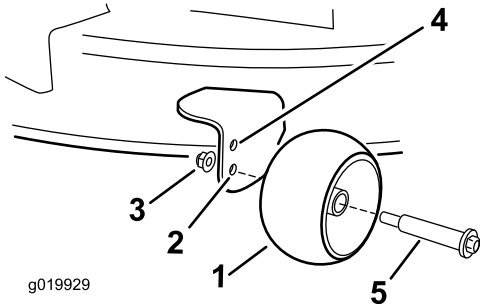

Figure 25
- Upper hole—use this position with the mower deck in the 63 mm (2-1/2 inches) and below the height-of-cut positions (Figure 25).
- Lower hole—use this position with the mower deck in the 76 mm (3 inches) and above the height-of-cut positions (Figure 25).